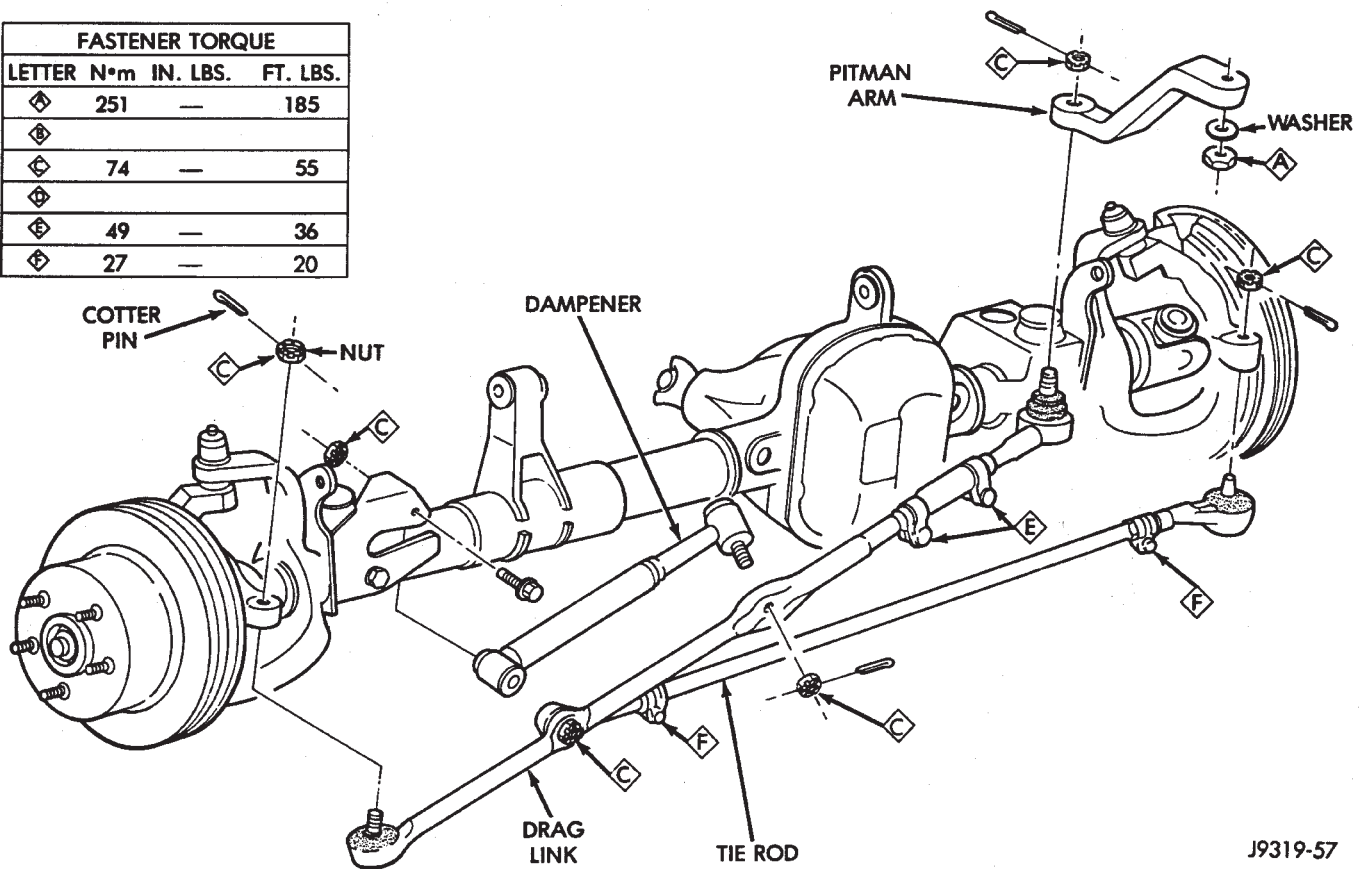

Fig. 2 Steering Linkage
(2) Position the drag link at the steering linkage (Fig. 2).
- (1) Place the front wheels in a straight-ahead position.
- (2) Remove the steering damper retaining nut and bolt from the axle bracket (Fig. 2).
- (3) Remove the cotter pin and nut from the ball stud at the drag link (Fig. 2).
- (4) Remove the steering damper ball stud from the drag link with a puller tool.